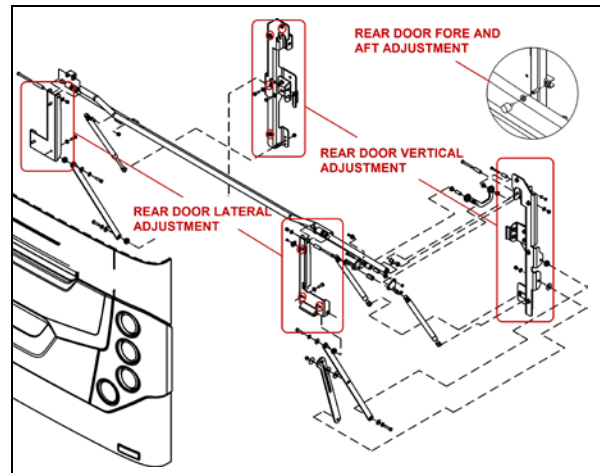

FIGURE 101: ENGINE COMPARTMENT DOOR
1. To adjust the door VERTICAL position, loosen the bolts (4 on each side) holding the door supporting arm and gas springs bracket to the *vehicle structure* (Figure 101).
2. To adjust the door LATERAL position, loosen the bolts (3 on each side) holding the door supporting arm and gas springs bracket to the *door* (Figure 101).
3. Adjust the door FORE & AFT position by screwing/unscrewing the rubber door stops on each side of the door opening (Figure 101).